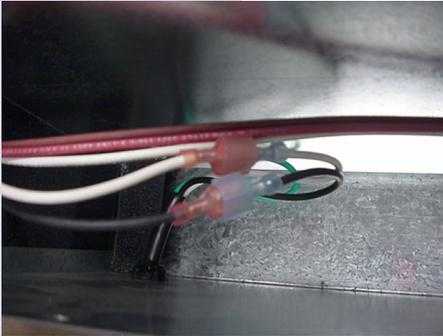

Figure 5
2. Disconnect the electrical cord. (Figure 5)